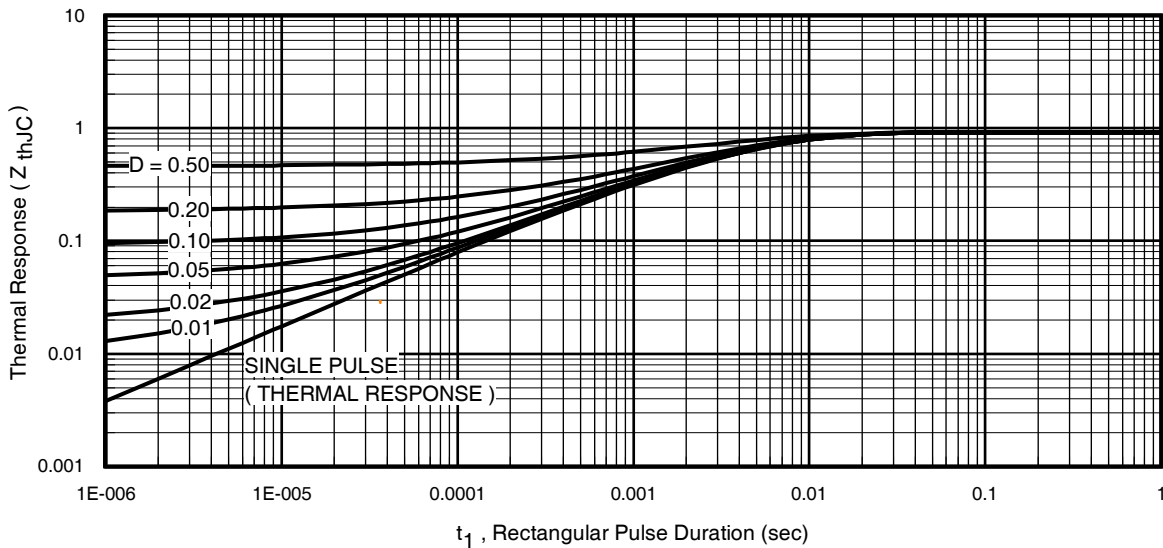
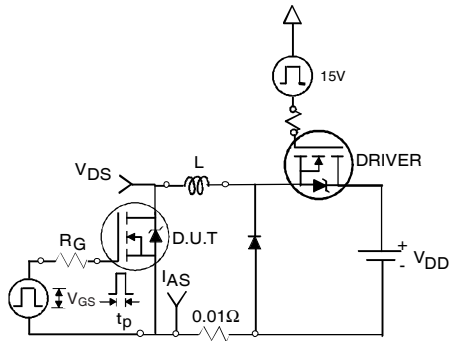

Fig 11. Maximum Effective Transient Thermal Impedance, Junction-to-Case
Fig 12a. Unclamped Inductive Test Circuit
- ① Repetitive rating; pulse width limited by max. junction temperature. (See fig. 11).
- ② Limited by T_{Jmax} , starting $T_J = 25^\circ\text{C}$, $L = 0.27\text{mH}$, $R_G = 25\Omega$, $I_{AS} = 35A$, $V_{GS} = 10V$. Part not recommended for use above this value.
- ③ $I_{SD} \leq 35A$, $di/dt \leq 380A/\mu s$, $V_{DD} \leq V_{(BR)DSS}$, $T_J \leq 175^\circ\text{C}$.
- ④ Pulse width $\leq 1.0\text{ms}$; duty cycle $\leq 2\%$.
- ⑤ $C_{oss \text{ eff.}}$ is a fixed capacitance that gives the same charging time as C_{oss} while V_{DS} is rising from 0 to 80% V_{DSS} .
- ⑥ Limited by T_{Jmax} , see Fig.12a, 12b, 15, 16 for typical repetitive avalanche performance.
- ⑦ This value determined from sample failure population. 100% tested to this value in production.
- ⑧ This is applied to $D^2\text{Pak}$, when mounted on 1" square PCB (FR-4 or G-10 Material). For recommended footprint and soldering techniques refer to application note #AN-994.
3. Equation below based on circuit and waveforms shown in Figures 12a, 12b.
$Z_{thJC}(D, t_{av})$ = Transient thermal resistance, see figure 11)